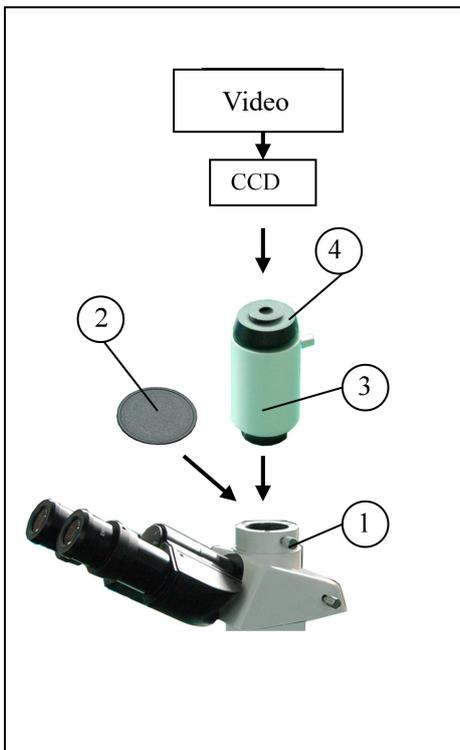

Fig 2
4.1.2 Installing the video set (Fig.2)
4.1.3 Focus (Fig.2)